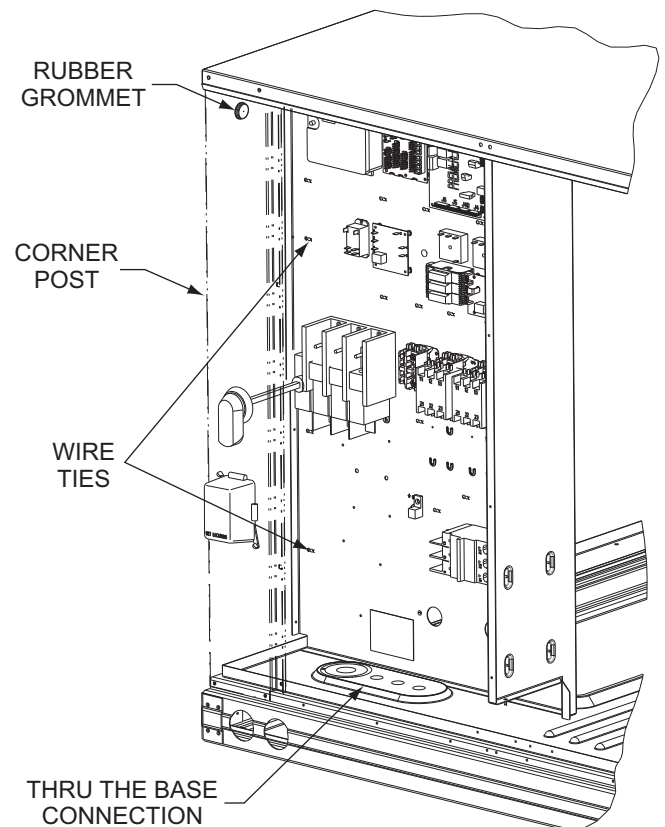

Fig. 47 — Field Control Wiring Raceway
2. Feed wires through the raceway built into the corner post (see Fig. 47) to the 24-v barrier located on the left side of the control box. The raceway provides the UL-required clearance between high-voltage and low-voltage wiring.